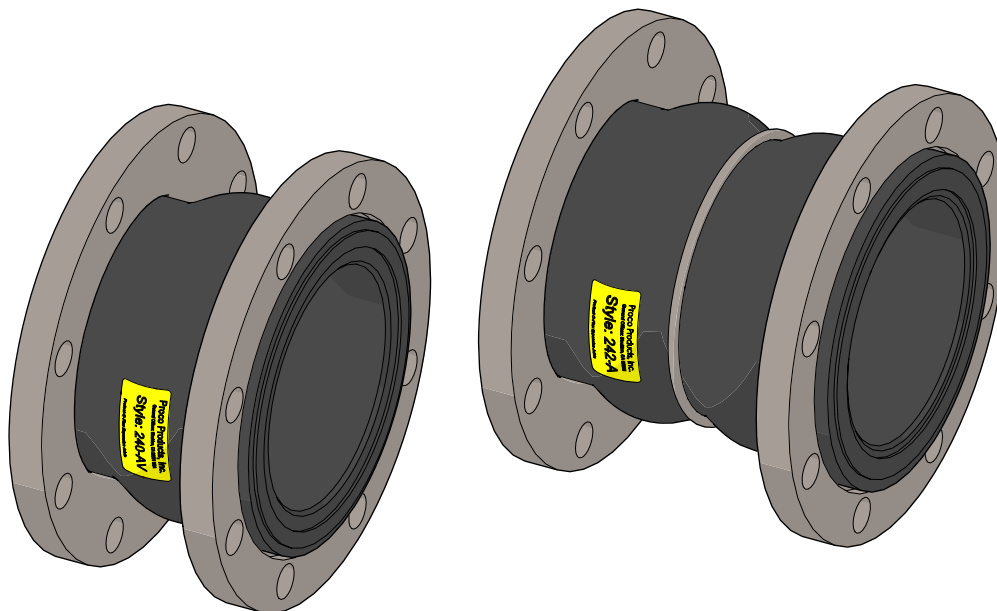
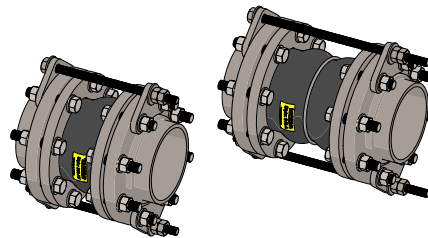

Figure 1: Style 240 & 242
Figure 12: Figure 1 Limit Rod Configuration
4.2.2 Figure 1: Limit Rod Configuration:
The Figure 1: Limit Rod configuration shown in Figure 12, otherwise known as Figure 1 is designed to control only the extension capabilities of the expansion joint as well as restrain the pressure thrust loads for non-properly anchored systems.